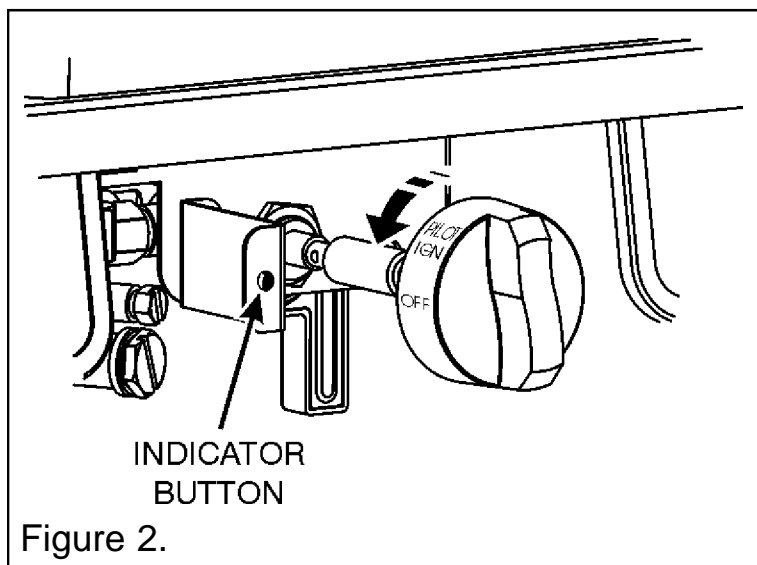
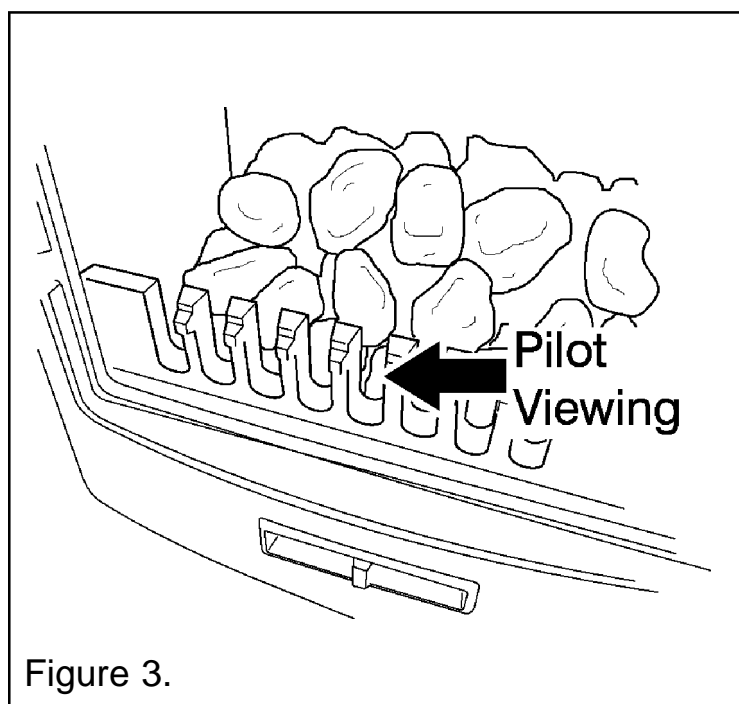

Figure 2.
Figure 3.
1. Depress the control knob and rotate it anticlockwise to the pilot ignition position (See figure 2). A 'click' will be heard as the integral piezo operates. A flame should appear at the pilot. The pilot can be seen by looking through the fifth space from the left on the fire bar, the flame being visible between the gap in the fuel effect (See figure 3). Keep the control knob depressed and hold the pilot ignition position for five seconds. When the control knob is released the pilot flame should remain lit. If a flame does not appear at the pilot then turn the control knob clockwise to the 'OFF' position and repeat the above.